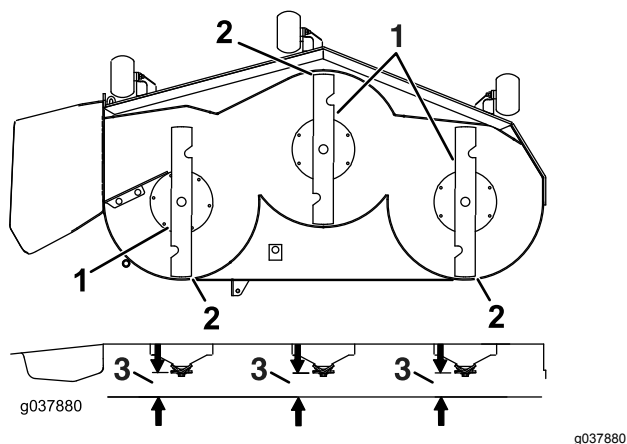

Figure 102
8. Check the front-to-rear blade level (Figure 102). Ensure the front blade tip is lower than the rear blade tip as shown in the block height and rake table. If adjustment is needed, continue with this procedure.